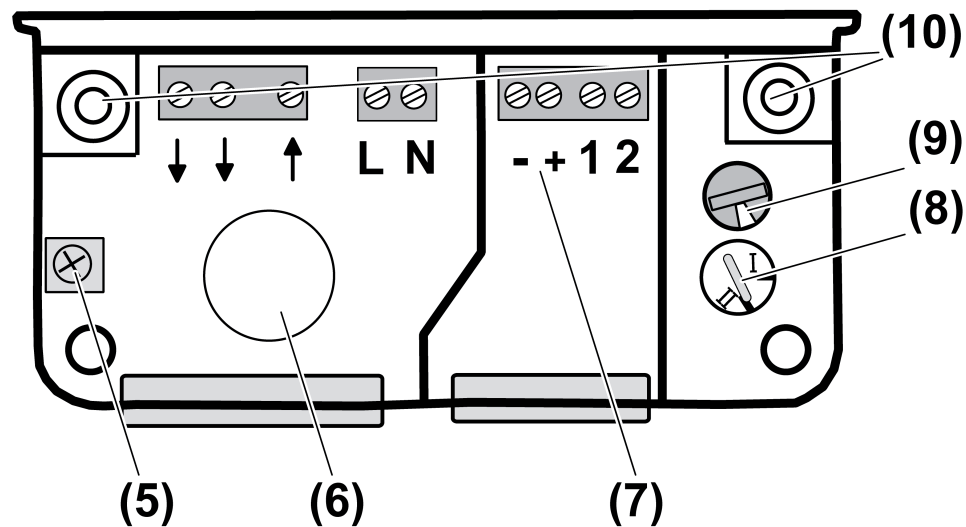

Figure 3: Converter connection compartment
- Remove the housing lid of the converter by slackening the two screws (3).
- For rear cable insertion, penetrate the rubber sheath (6) and insert the cable (figure 3).
- Turn the rotary switch to the (8) to the II position, factory setting (figure 3).